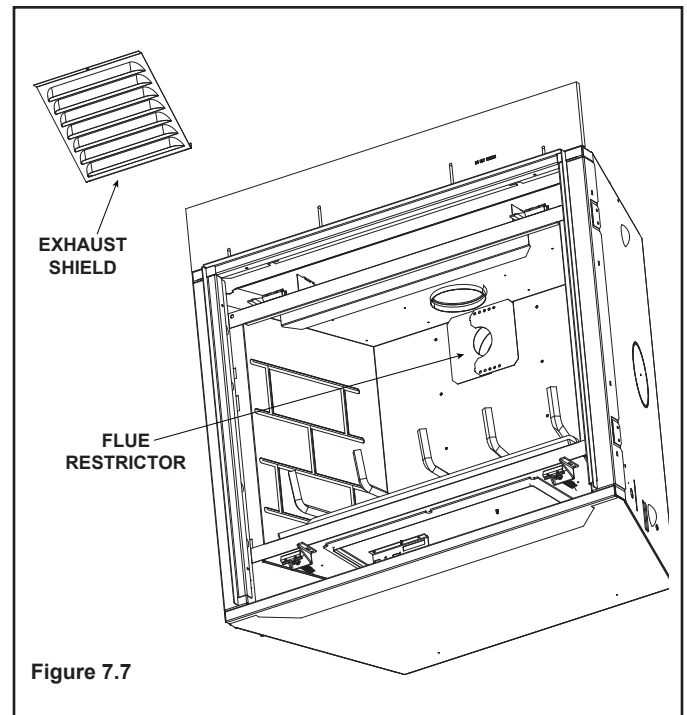

Figure 7.7
1. Remove exhaust shield using a 1/4 inch nut driver by removing the four screws securing it in place (see Figure 7.7).